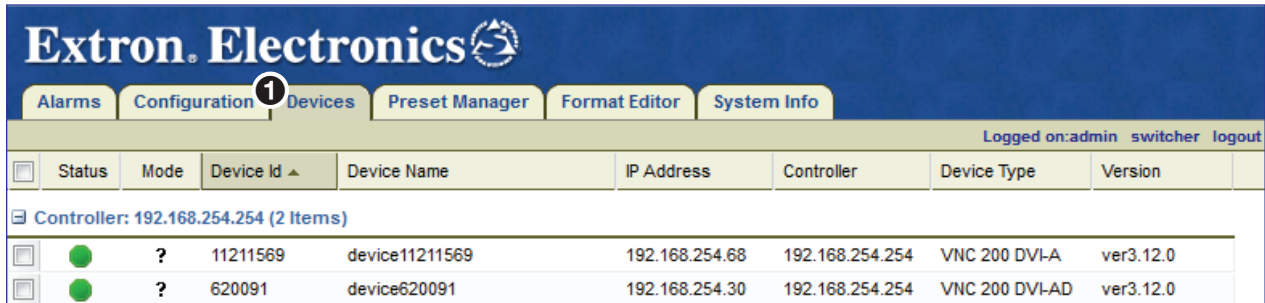

Figure 4. Devices Page
4. Click **Login** or press the <Enter> key. The web-based user interface defaults to the Devices page (see figure 4, 1).